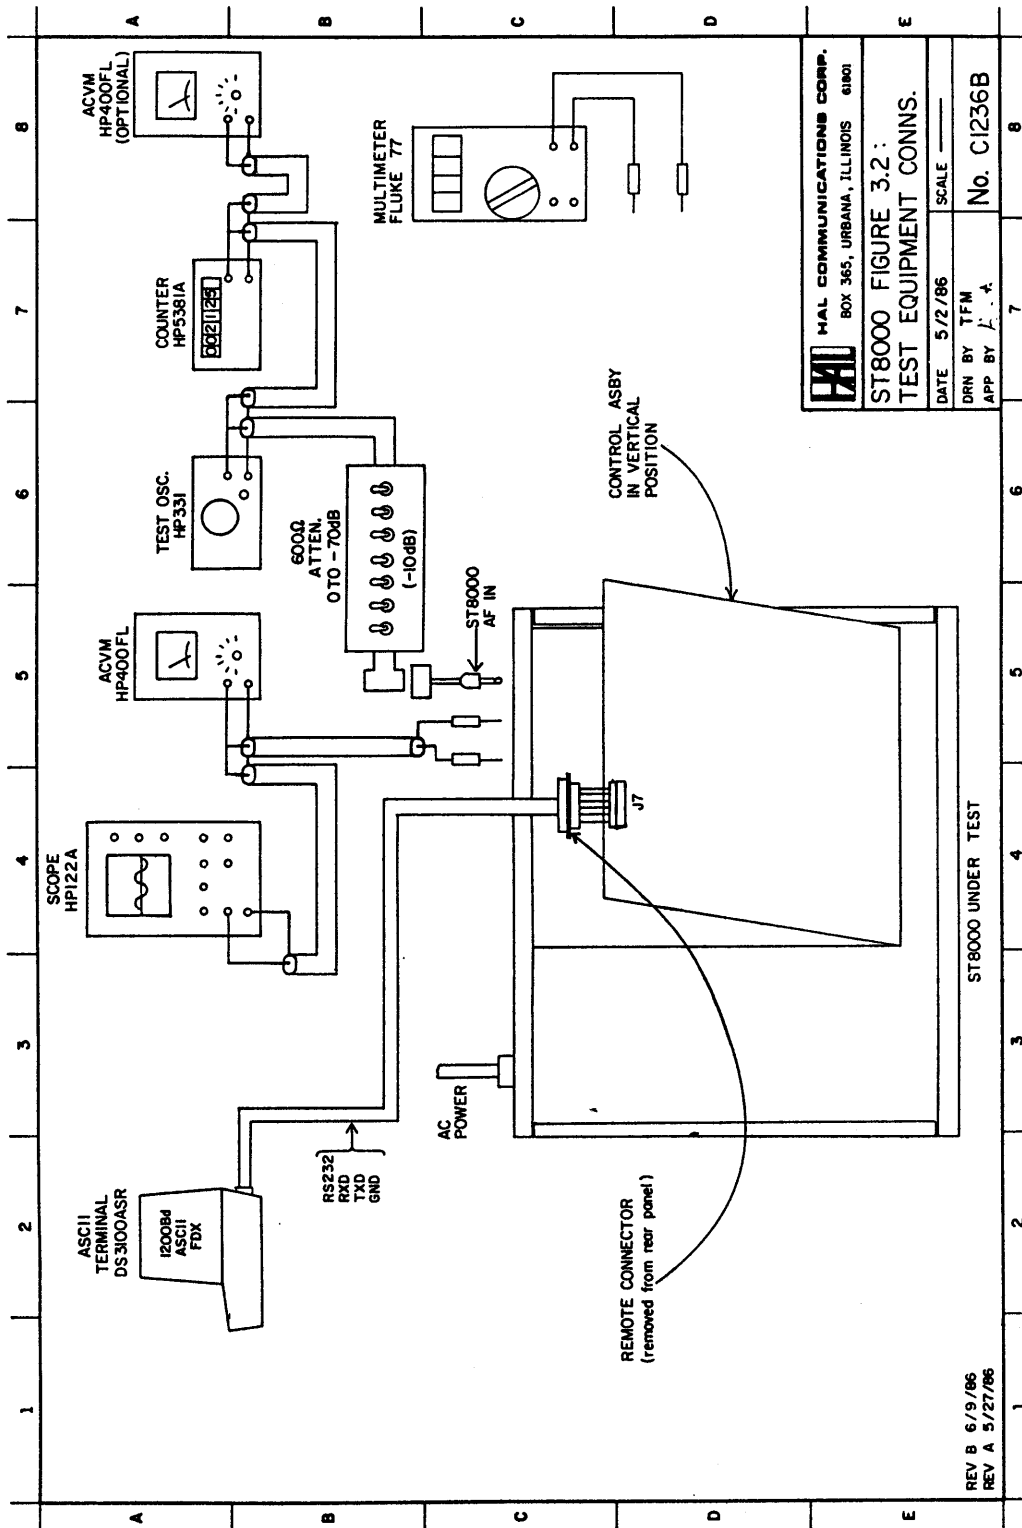

Figure 3.2 TEST EQUIPMENT CONNECTIONS
The REMOTE CONTROL port will be used to set-up test conditions. Therefore, temporarily remove the REMOTE connector from the ST8000 rear panel and plug it back into it's mating connector (J7) on the CONTROL board (See Figure 3.2). The REMOTE control terminal (DS3100) should be connected to the REMOTE DB25 connector and set for 1200 baud ASCII, FDX operation.
- (2) Refer to Figure 3.2 and connect the test equipment as shown. Set the test oscillator for: